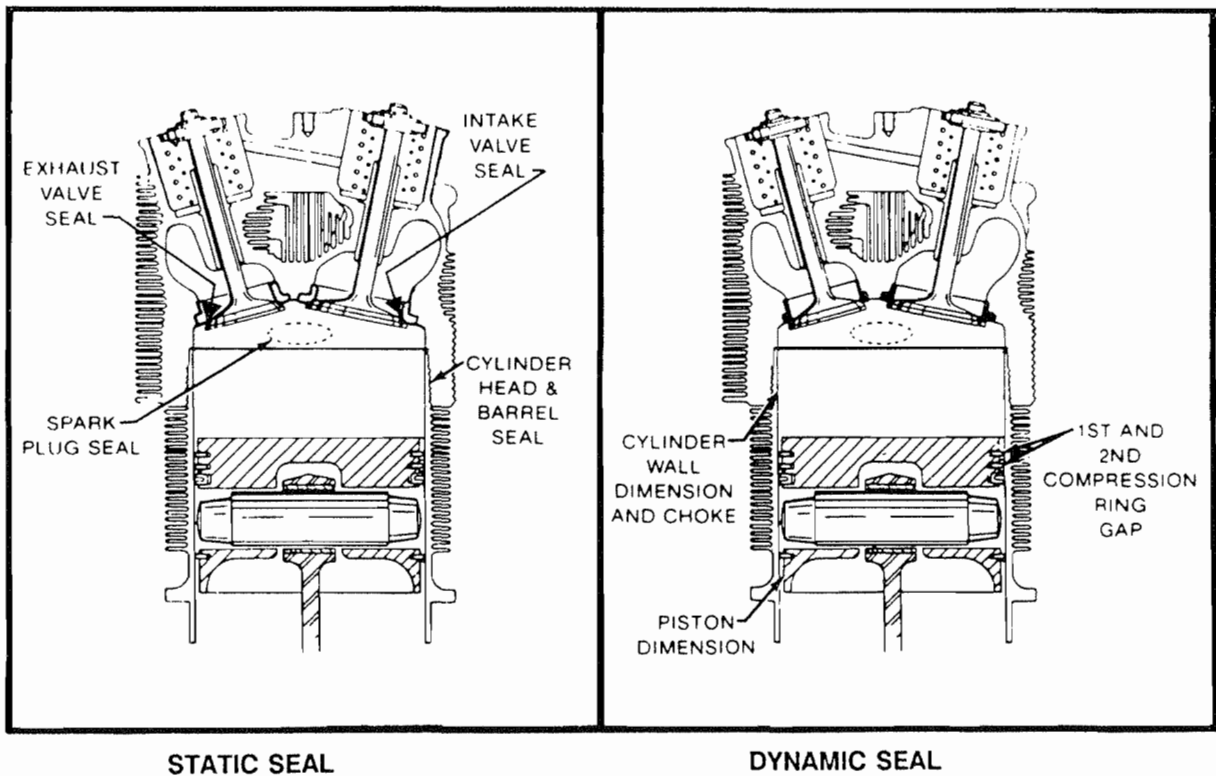

FIGURE 9-2
The static seal consists of the valve to valve seat seal, spark plug to spark plug port seals and cylinder head to barrel seal (Ref. Figure 9-2). No leakage of the static seal is permissible.
The dynamic seal consist of the piston rings to the cylinder wall seal (Ref. Figure 9-2). This seal leakage can vary from engine to engine by the cylinder displacement, cylinder choke, ring end gap and piston design.
10. If the cylinder was removed for static leakage, replacement or repair, inspect piston ring gap and cylinder wall for tolerance (Ref. Dynamic Seal, Figure 9-2). Once the piston and the cylinder have been cleaned, inspected, and ring gap tolerance have been met, reassemble to the engine.